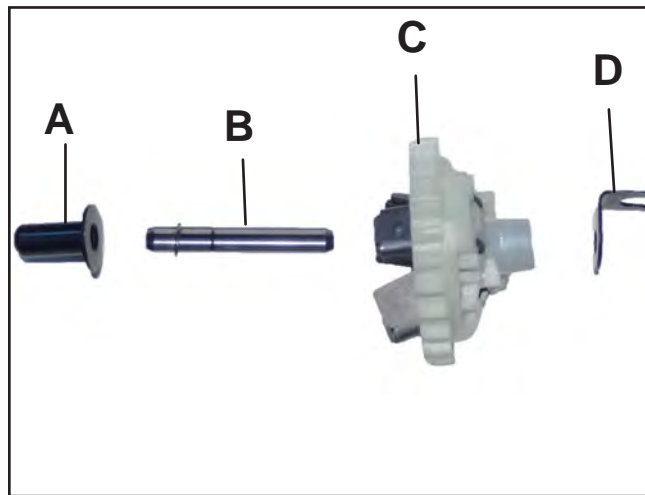

Figure 25
4. Measure and compare to specifications, governor end play 0.05 in. (0.35 mm) (Figure 25).